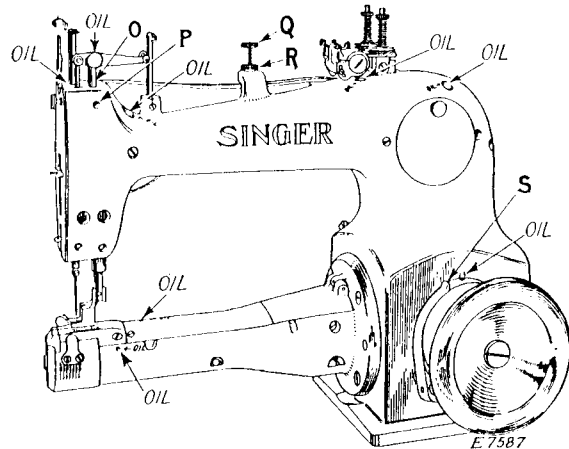
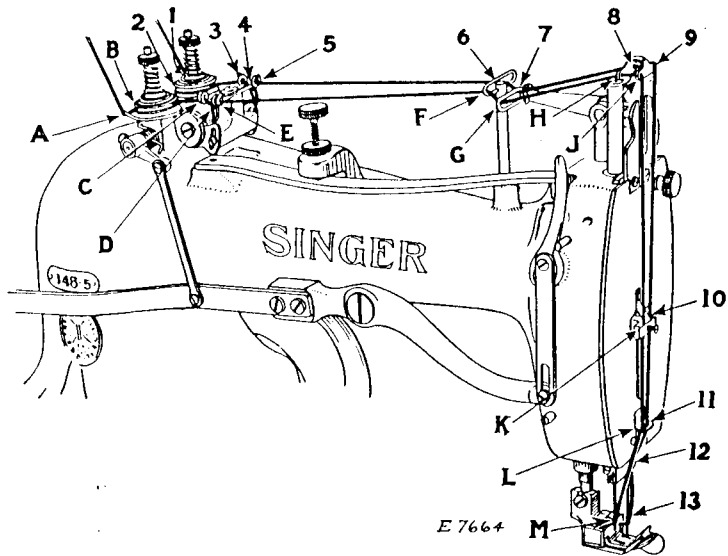

FIG. 3. OILING POINTS AND ADJUSTMENTS ON THE MACHINE
FIG. 7. THREADING THE NEEDLES
(SEE FIG. 7)
Pull the latch (S, Fig. 3, page 4) towards you with the left hand and at the same time, with the right hand, turn the balance wheel in either direction until it locks. Then, while holding the latch up, turn the top of the balance wheel toward you to lengthen or from you to shorten the stitch. When the desired length of stitch is obtained, push the latch (S) back into position.
The pressure of the presser foot on the material is regulated by means of the thumb screw (Q, Fig. 3, page 4) at the top of the machine. To increase the pressure, loosen the lock nut (R, Fig. 3) and turn the thumb screw (Q) downwardly. To decrease the pressure, turn this thumb screw upwardly. When the desired amount of pressure is obtained, securely tighten the lock nut (R).
The slack thread controller springs (4 and D, Fig. 7, page 8) should be adjusted to take up the slack thread between the needle thread nipper (K, Fig. 7) on the face plate and the needle thread tension discs.
The purpose of the needle thread controller (7, Fig. 7) is to regulate the amount of needle thread drawn through the tension discs at the finish of the upward stroke of the needle bar, according to the thickness of the material under the presser foot. The thread controller (7) can be adjusted by loosening screw (P, Fig. 3) and raising or lowering the post (O, Fig. 3). When the desired adjustment of the thread controller is obtained, securely tighten the screw (P).